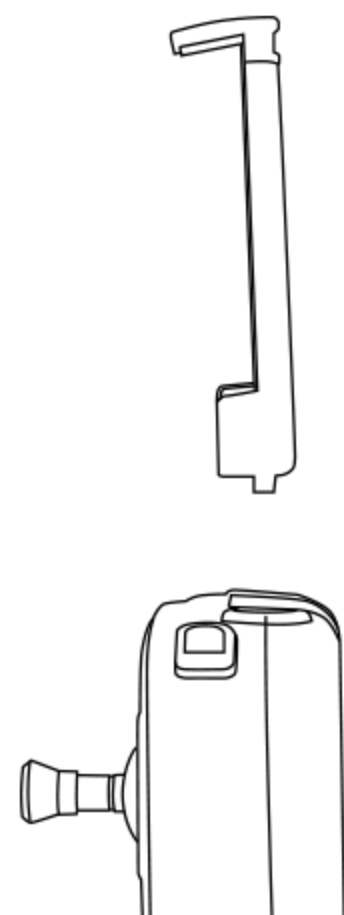
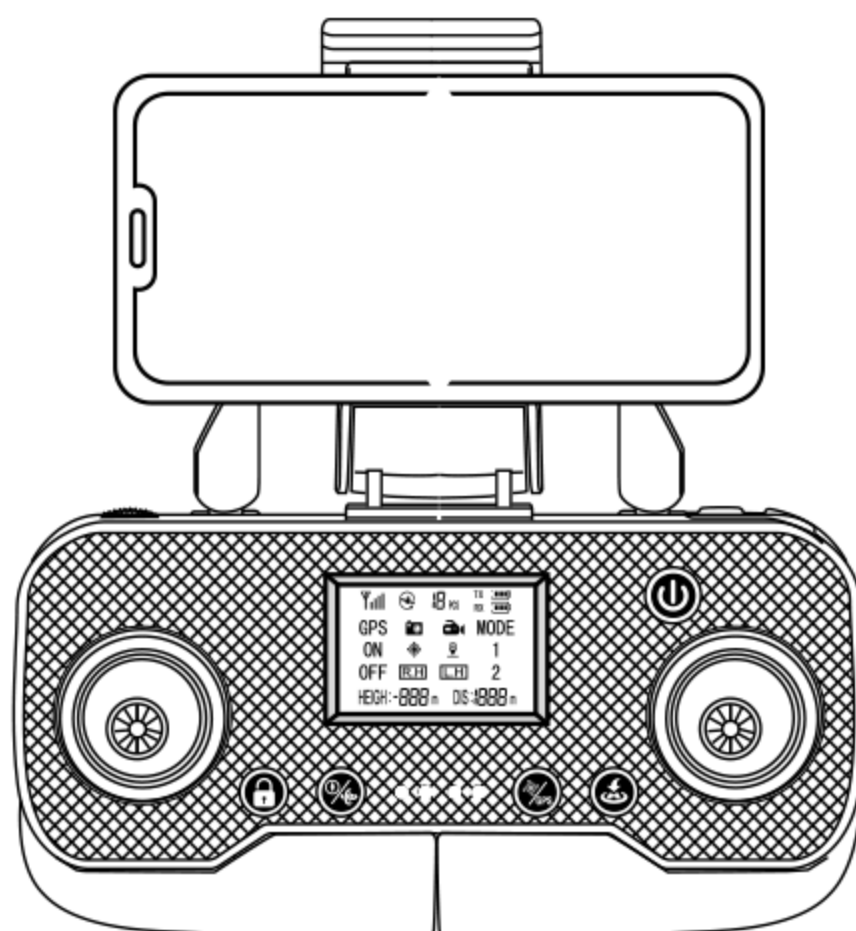

Figure 1
Figure 2
Mobile phone rack: Install the mobile phone rack into the remote control (Figure 1), and stretch upward to place the mobile phone (Figure 2). Remote control handle: Pull down the bottom handle of the remote control from the middle position and rotate it to the correct position.
Remove the drone battery: Press and hold the position shown by the arrow in Figure 1, and pull back to remove the battery.
(Figure 1) The transmitting port sends out a pulse signal, and when encountering obstacles within the scanning range, the receiving port returns the pulse signal. After receiving the return pulse signal, the receiving port calculates the distance between the drone and the obstacle through a series of calculations, and sends a stop advance command to the drone, thereby achieving the obstacle avoidance effect!
1. (Figure 2) When the UAV is flying, as shown in Figure 3, the effective scanning range of the obstacle avoidance device is 20 meters directly ahead of the UAV's flight, and the scanning path is scanned from about 90 ° between the two arms in the flight direction!
Place the drone in a horizontal position, and press and hold the "Gyro Calibration" button on the remote control (Figure 1). The drone's light flashes quickly to a green light that slowly flashes, while the red light remains on. At the same time, the remote control emits a "Di" sound, indicating that the calibration is successful.
Press and hold the GPS switch button for 3 seconds (Figure 2), and the remote control will "tick" and "tick" twice to turn on indoor mode. At this time, the green light on the drone will flash slowly, and the red light will stay on for a long time (the indoor mode indicator on the remote control will go out) to indicate that the drone has entered indoor mode.
(Figure 1)
Briefly press the "geomagnetic correction" button on the remote control, as shown in Figure 2. The remote control emits a "Di" sound, and the drone indicator light changes to a flash. At this point, calibration can be performed. Hold the drone in your hand and slowly rotate it clockwise for 3 turns in the horizontal direction (Figure 3). The drone indicator light changes from fast to slow flashing, and the remote controller emits a "Di" sound, indicating that the horizontal calibration has been successful. At this point, it is possible to proceed in the vertical direction (as shown in Figure 4), slowly rotate the nose downward for 3 turns clockwise, and the drone indicator light will slowly flash to the front indicator light. After that, the indicator light will remain on for a long time. The remote control will emit a "DiDi" sound twice to indicate successful calibration.
(Figure 2)